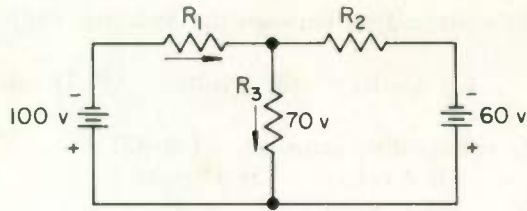

Fig. 51
40. What is the voltage across R_2 in Fig. 51? Arrows on the diagram indicate direction of current flow through R_1 and R_3 , but not through R_2 .
41. What is the direction of current flow through R_2 in Fig. 51?